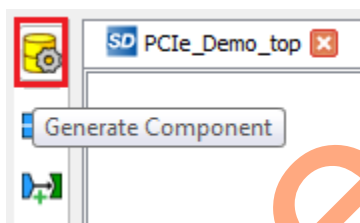

Figure 27 • Generate Component
2. Open the **PCIE_Demo_top** tab and click **Generate Component** as shown in Figure 27.